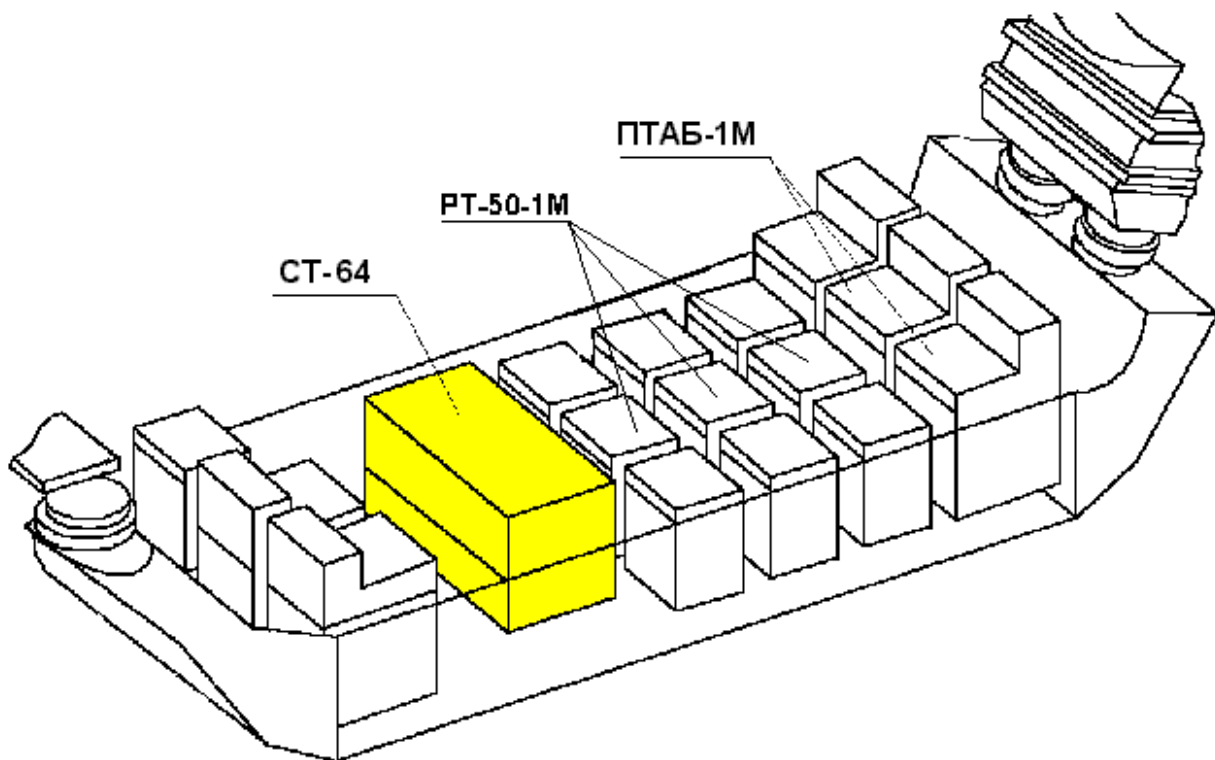

Figure 3.3.-1. CT-64 Unit Location Diagram
3. Install CT-64 into nominal location (see Figure 3.3.-1)